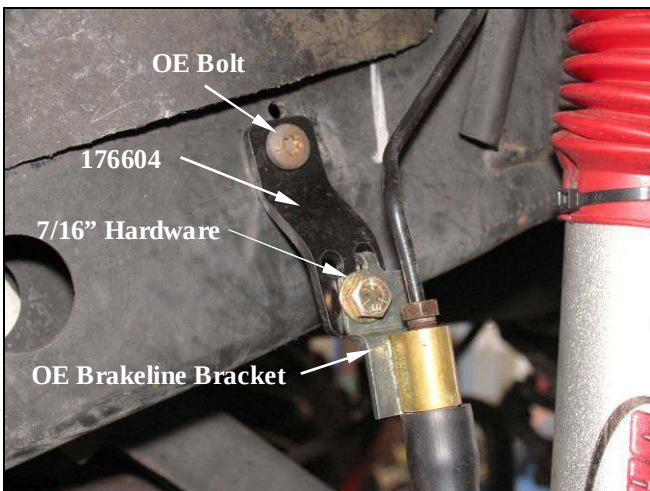

Figure 9
- 3) ☐ Attach bracket 176604 to the frame reusing the OE self tapping bolt. See Figure 9 for details.